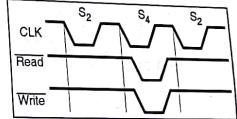

Fig. 17.8.3 : Compressed timing
- In compressed time, the 8237 eliminates state S_3 . Hence 8237 execute only S_2 and S_4 as shown in Fig. 17.8.3.